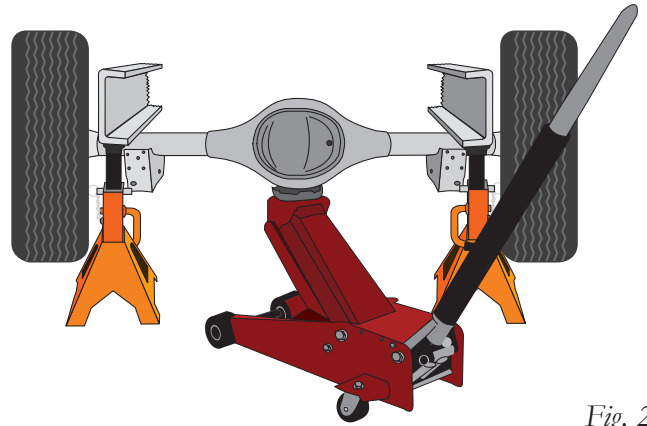

Fig. 2
1. Lift the vehicle and support the frame with safety stands. Remove the rear wheels and drop the axle down low enough to later set the air springs into position between the frame and axle (Fig. 2).